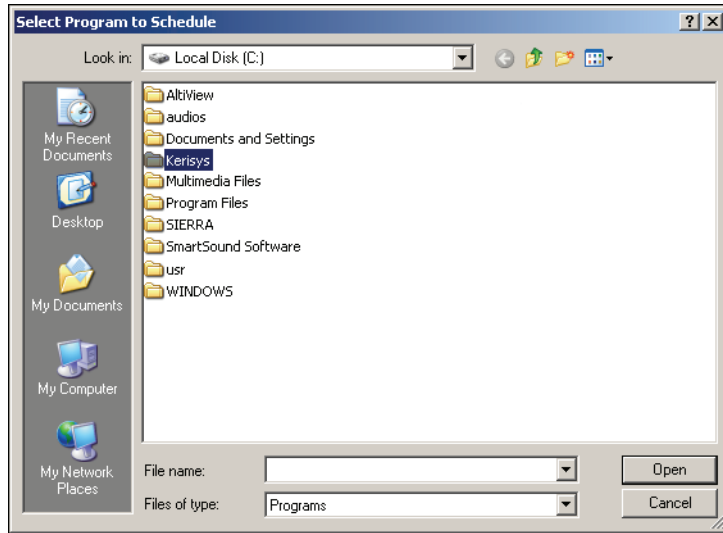

Figure 5-27: Select Program to Schedule
- Click on the **Browse...** button. The next window in the Select Program To Schedule window will appear (see Figure 5-27 on page 32 of this section).